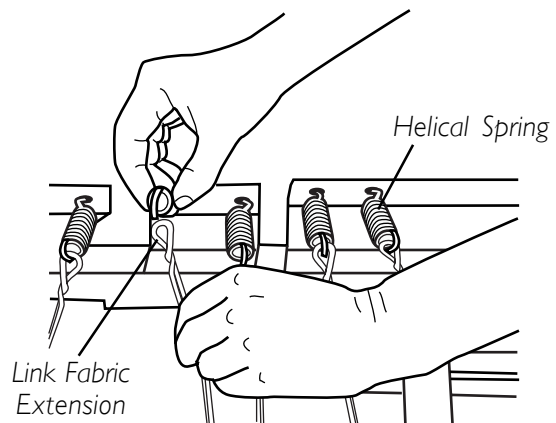

FIGURE 3 - ATTACHING OPEN-END HOOKS
4. Attach one (1) helical spring to one (1) end of the link fabric extension supplied with the kit. Refer to **FIGURE 3**.
5. Attach the opposite end of the helical spring to one (1) of the four (4) mounting holes in the four-inch extension.